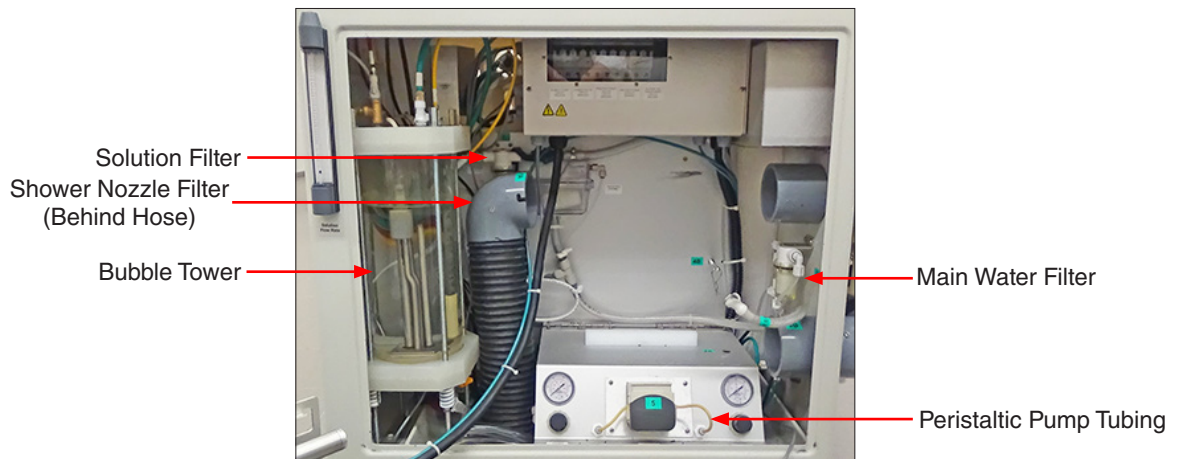
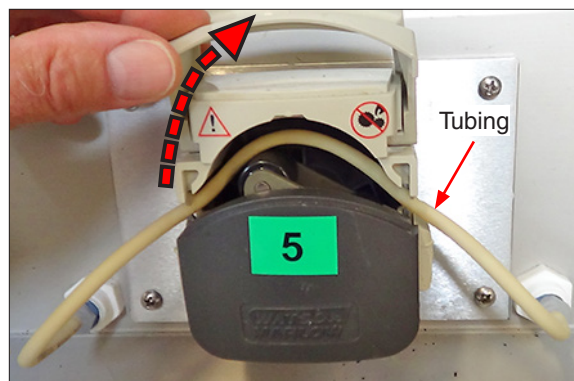

Figure 14.1a: Location of components requiring maintenance (ACM removed).
Figure 14.1b: Open peristaltic pump to check tubing.
- **Peristaltic Pump Tubing:** (Figure 14.1a and Figure 14.1b) check for leaks or wear, replace if necessary.
- **Bubble Tower:** (Figure 14.1a and Section 8.2) drain and allow to refill with clean water.
- **Main Water Filter:** (Figure 14.1a) unscrew bowl, remove, and clean or replace cartridge.
- **Solution Filter:** (Figure 14.1a) unscrew bowl, remove, and clean or replace cartridge.
- **Shower Nozzle Filter:** (Figure 14.1a) unscrew bowl, remove, and clean or replace cartridge.